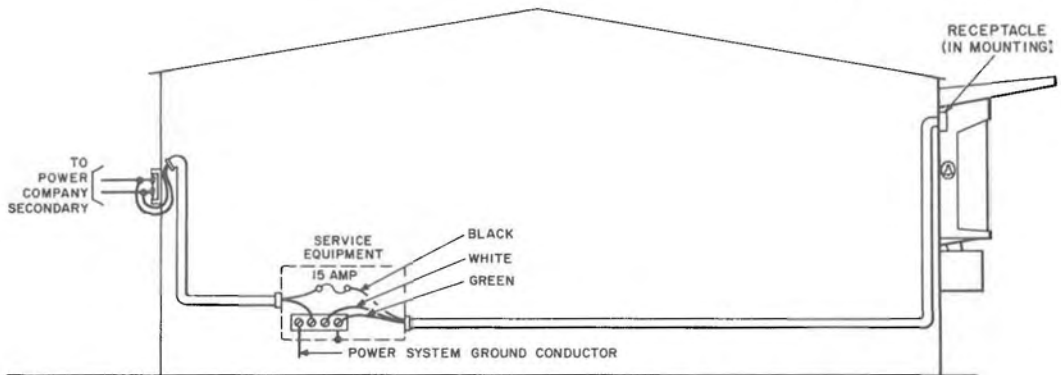

Fig. 16—Booth Located Within Same Building as Branch Circuit
9.01 Fig. 16 and 17 show various applications of extending branch circuit within a building.